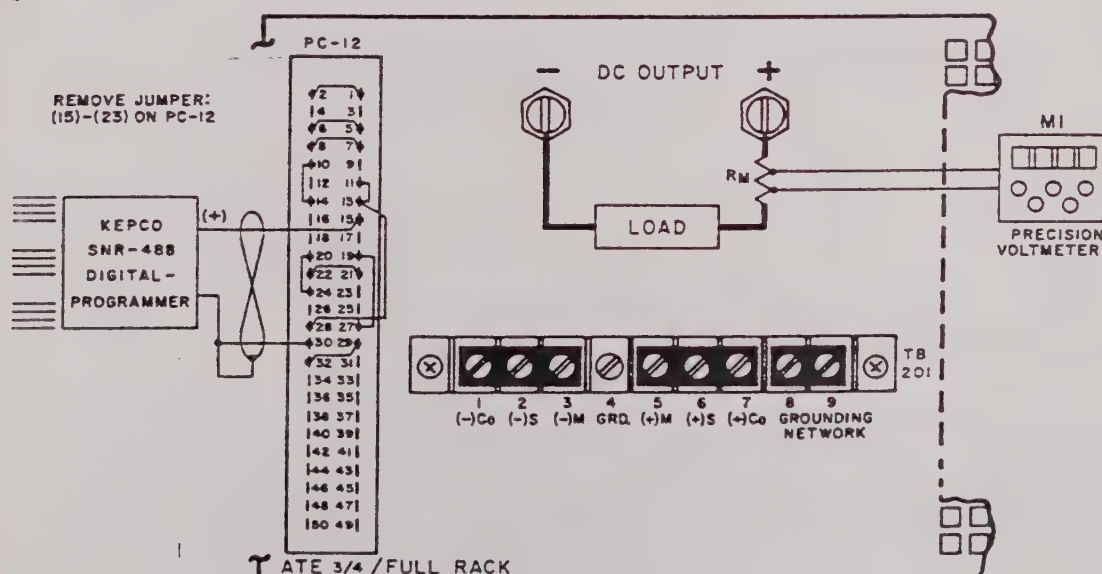

FIG. 3-11 CONNECTIONS FOR OUTPUT CURRENT CONTROL WITH A 0-1 VOLT CONTROL SIGNAL (KEPCO SN-488 DIGITAL PROGRAMMER).
58 GENERAL. The ATE output current, controlled by a front panel CURRENT CONTROL rheostat in the local control mode, can be remotely controlled by disconnecting the 15V bias from the non-inverting input of the EXT. CURRENT COMPARISON AMPL at the REAR PROGRAMMING CONNECTOR, and applying a 0 to 1 volt external control signal with reference to the ATE COMMON terminal. Since the non-inverting input of the EXT. CURRENT COMPARISON AMPL is used, only the small amplifier bias current must be supplied by the external control source. IN ALL CURRENT PROGRAMMING APPLICATIONS, THE FRONT PANEL CURRENT CONTROL SETTING OF THE ATE ACTS AS A "BACK-UP" CURRENT LIMIT AND MUST BE SET SLIGHTLY HIGHER THAN THE REQUIRED MAXIMUM OUTPUT CURRENT. An application, demonstrating this control method is described in PAR. 3-60 and illustrated in FIG. 3-11.
- 1) Connect the EXT. CONTROL VOLTAGE, (Model SN-488 Digital Programmer), the LOAD and the PRECISION VOLTMETER (M1) to the ATE as shown in FIG. 3-11.
Note: The output current value can be measured directly by means of a suitable ammeter in series with the load or, as indicated in FIG. 3-11, indirectly by means of the precision voltmeter (M1) across a current measuring resistor (R_M). R_M should be selected such that a convenient range on the precision voltmeter can be used, e.g., for a 10 ampere output current, use a 0.1 ohm resistor to produce a one volt full scale reading. If an electronic voltmeter is used, it should be battery-operated to avoid ground loops.